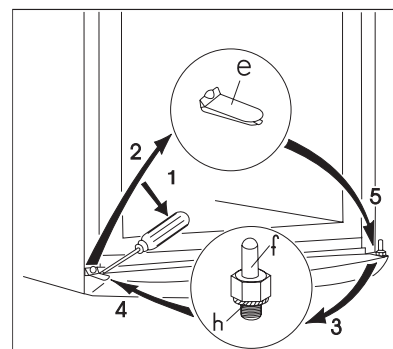

fig. 3.
- Remove the insert of the plinth (e) by a screwdriver. (fig.3)
- Unmount the lower hinge pin (f) and its washer (h) and mount them on the other side. (fig.3)
- Fit the freezer door to the lower door hinge pin (f). (fig.3)